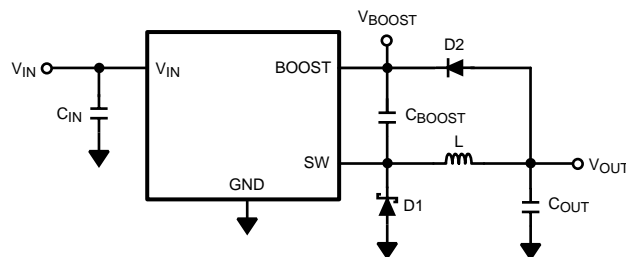

**Figure 20. LM2736 Waveforms of SW Pin Voltage and Inductor Current**
The following operating description of the LM2736 will refer to the Simplified Block Diagram (Figure 19) and to the waveforms in Figure 20. The LM2736 supplies a regulated output voltage by switching the internal NMOS control switch at constant frequency and variable duty cycle. A switching cycle begins at the falling edge of the reset pulse generated by the internal oscillator. When this pulse goes low, the output control logic turns on the internal NMOS control switch. During this on-time, the SW pin voltage ( $V_{SW}$ ) swings up to approximately  $V_{IN}$ , and the inductor current ( $I_L$ ) increases with a linear slope.  $I_L$  is measured by the current-sense amplifier, which generates an output proportional to the switch current. The sense signal is summed with the regulator's corrective ramp and compared to the error amplifier's output, which is proportional to the difference between the feedback voltage and  $V_{REF}$ . When the PWM comparator output goes high, the output switch turns off until the next switching cycle begins. During the switch off-time, inductor current discharges through Schottky diode D1, which forces the SW pin to swing below ground by the forward voltage ( $V_D$ ) of the catch diode. The regulator loop adjusts the duty cycle (D) to maintain a constant output voltage.
In the Simplified Block Diagram of Figure 19, capacitor  $C_{\text{BOOST}}$  and diode D2 supply the gate-drive current for the NMOS switch. Capacitor  $C_{\text{BOOST}}$  is charged via diode D2 by  $V_{\text{IN}}$ . During a normal switching cycle, when the internal NMOS control switch is off ( $T_{\text{OFF}}$ ) (refer to Figure 20),  $V_{\text{BOOST}}$  equals  $V_{\text{IN}}$  minus the forward voltage of D2 ( $V_{\text{FD2}}$ ), during which the current in the inductor (L) forward biases the Schottky diode D1 ( $V_{\text{FD1}}$ ). Therefore the voltage stored across  $C_{\text{BOOST}}$  is